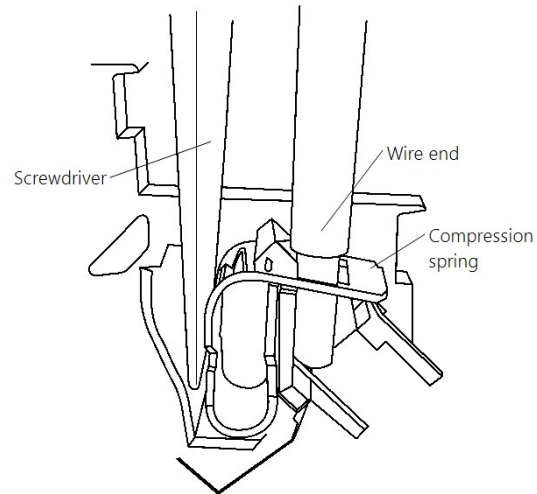

FIGURE 6-9. Securing a wire with a spring clamp
- The terminals on DIN-rail components may be secured by screws or spring clamps. To open the spring clamp, insert a small flathead screwdriver as shown in FIGURE 6-9 (p. 14) to open the terminal. The wire end is inserted into the spring, and then the screwdriver is removed to close the terminal.